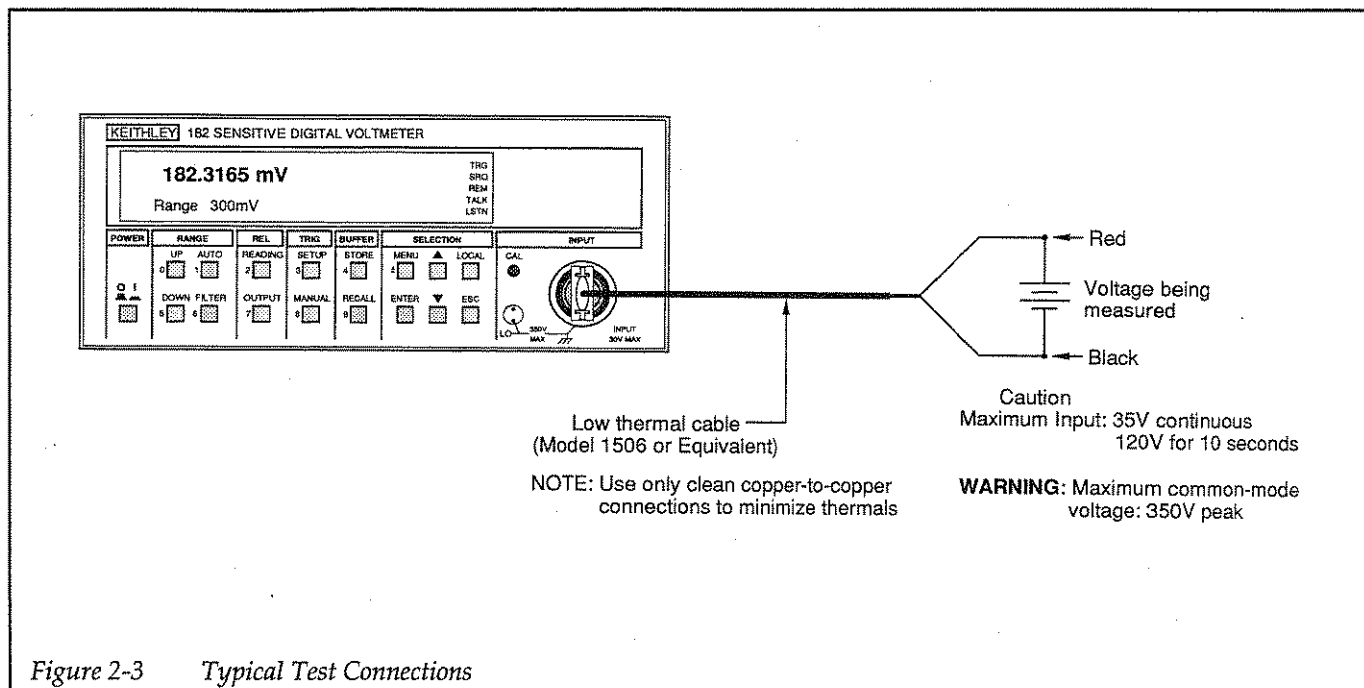

Figure 2-3 Typical Test Connections
7. Connect the source to be measured to the low-thermal cable that is connected to the front panel INPUT connector. See Figure 2-3 for typical connections.